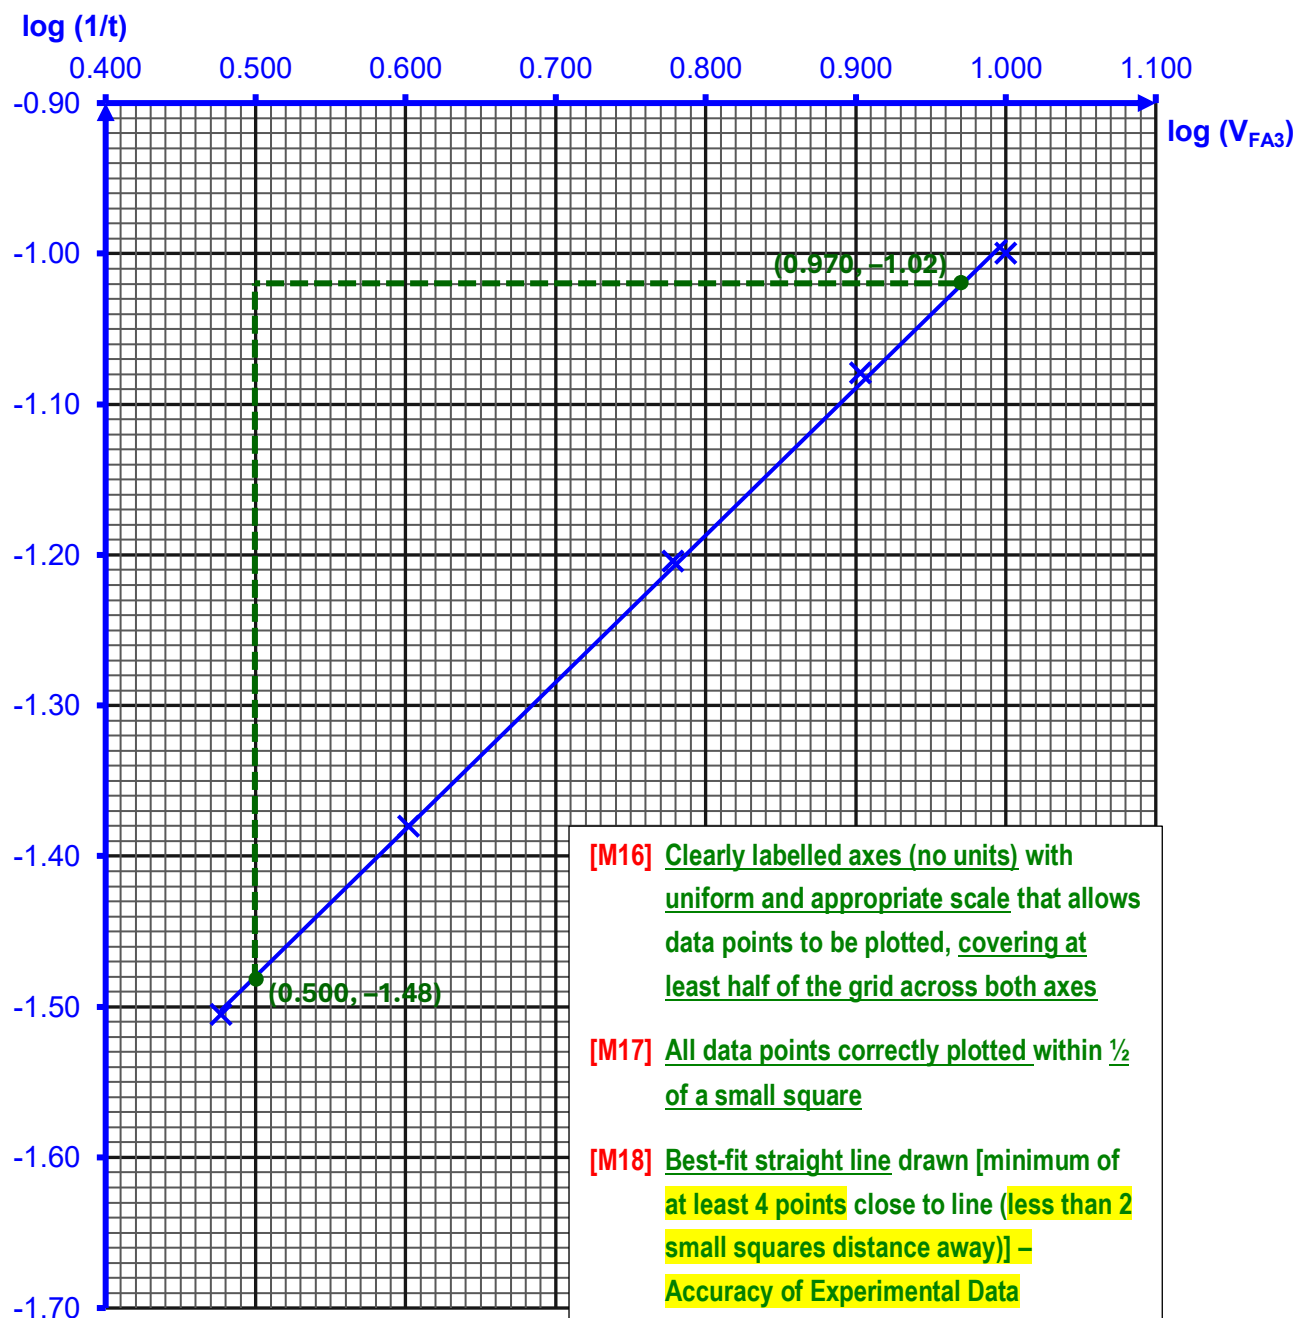

Fig. 2.1
- (b) (i) Plot a graph of $\log(1/t)$ on the y-axis against $\log(V_{\text{FA } 3})$ on the x-axis on the grid in Fig. 2.1. Draw the best-fit straight line.